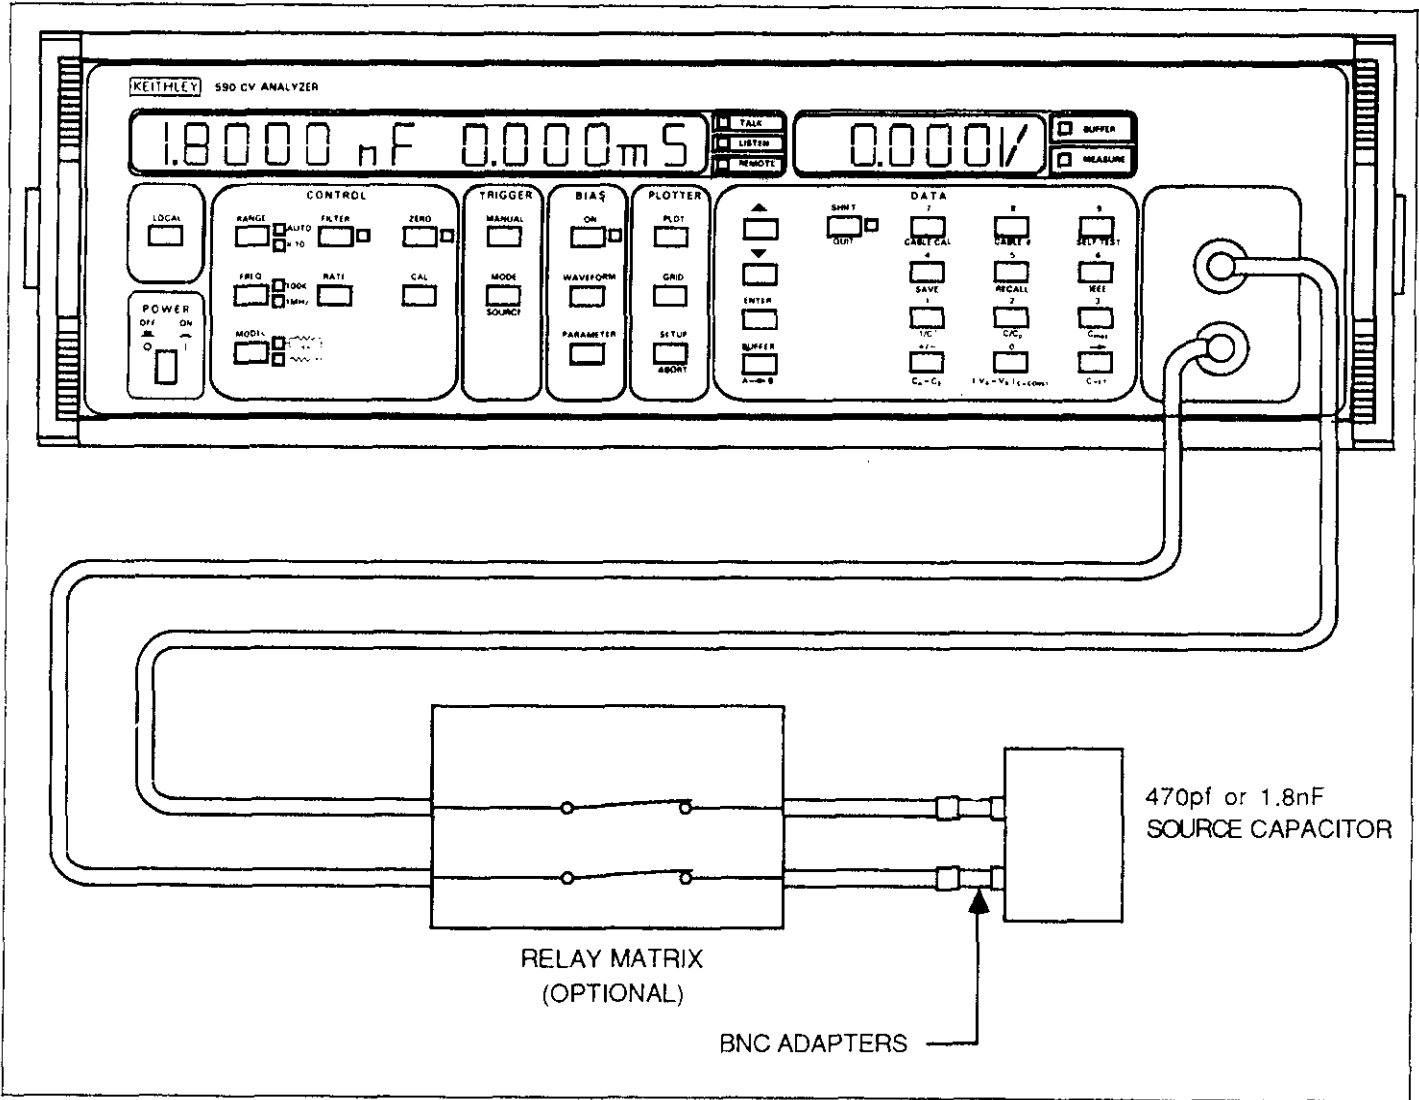

Figure 5-1. Connections for Calibration Source Correction
Figure 5-1 shows typical connections for this method of cable correction. Here, we have assumed that a relay matrix will be included in the test path. Of course, your particular test configuration will probably be different. In any case, you should include as much of the actual test path in the pathways. Typically, the test fixture will be disconnected from the cables and the source capacitor connected in its place. Use the supplied female-to-female BNC adapters to connect the source to the cables.
7. Connect the 1.8nF capacitance source in place of your test fixture as shown in Figure 5-1.